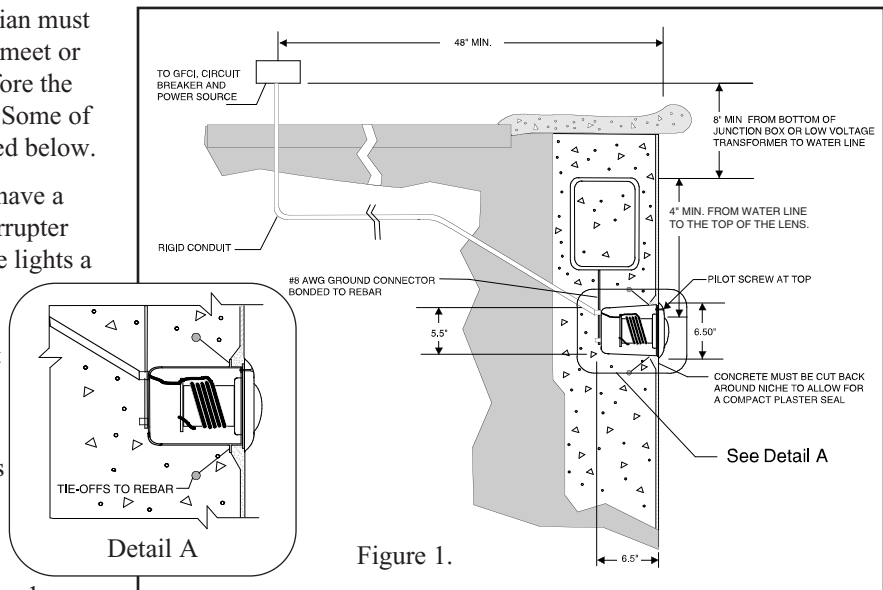

Figure 1.
A. Preparatory steps which must be completed by the electrician before light is installed, see Figure 1.
- b. The junction box or the low voltage transformer is located at least 8 inches above water level and at least 48 inches from the edge of the pool, see Figure 1.
- c. The wet niche and all metal items within five (5) feet of the pool must be properly electrically bonded.
- d. The wet niche must be properly installed so the pilot screw hole is at the 12 o'clock position and that the top edge of the Underwater Light's lens is at least 4 inches below the surface of the water in the pool, see Figure 1.
- e. The wet niche must be properly electrically bonded and grounded via the NO. 8 AWG ground connector located at the rear of the niche, see Figure 1.
1. Feed cord through conduit to junction box leaving at least four (4) feet of cord at the light fixture to coil around the light, see Figure 1. This four (4) feet of cord coiled around the light allows the light to be serviced after the pool is filled with water.
3. Strip six (6) inches of the outer cord jacket to expose the two insulated wires — Be careful not to damage the insulation on the two (2) inner wires.